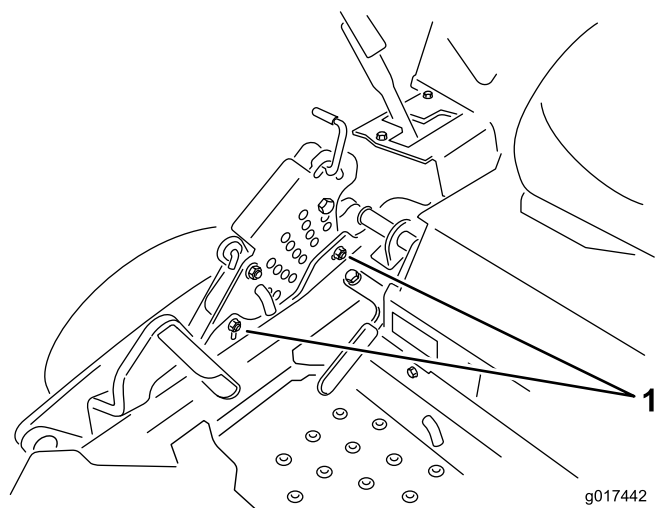

Figure 77
- To adjust the single point system, loosen the two bolts at the bottom of the height of cut plate. Refer to Figure 77.
- Tighten the two bolts at the bottom of the height of cut plate (Figure 77). Torque to 37-45 N-m (27-33 ft-lb).